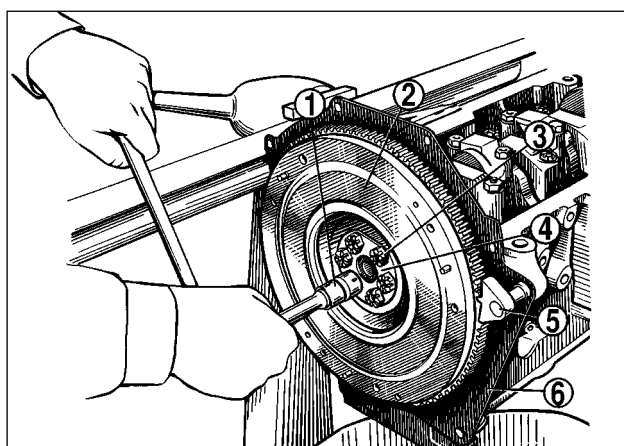

Fig.2-10. Removing the flywheel:
To remove the crankshaft pulley, secure the flywheel using A.60330/R (Fig. 2-10) and undo the nut using tool A.5012 (Fig. 2-5). Withdraw the valve cover and timing cover. Unbolt the
Fit tool 5 (Fig.2-10), undo bolts 3, remove washer 4 and the flywheel from the crankshaft. Remove the front clutch housing cover.
Locate front clutch housing cover 6 (Fig.2-10) over two centering pins (Fig. 2-16). Secure the cover to the rear oil seal housing with nuts.
- when the marks are aligned, hold the flywheel stationary with tool A.60330/R (Fig.2-10), then tighten the sprocket securing bolts and chain tensioner cap nut to the torques specified, bend the sprocket bolt lock washers; should the marks are not aligned, repeat the chain refitting procedure.